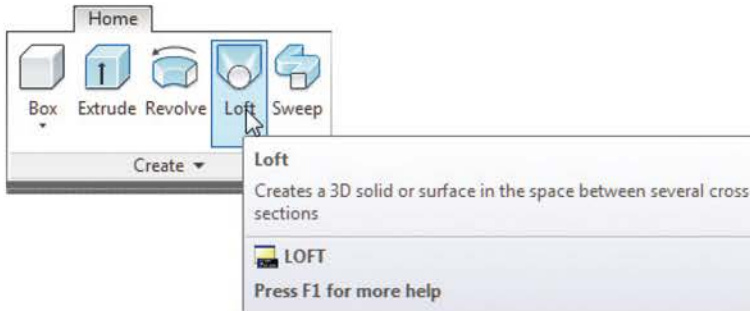

Fig. 9.38 Selecting the Loft tool from the Home/Create panel
3. Call the **Loft** tool with a *click* on its tool icon in the **Home/ Create** panel (Fig. 9.38).